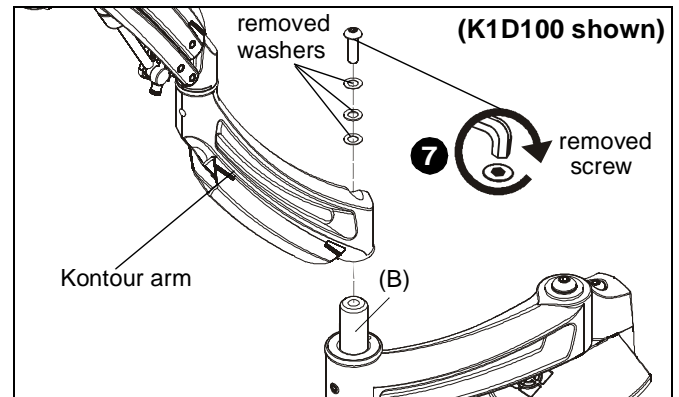

Figure 3
7. Use hardware removed in Step 2 to attach removed arm onto extension arm pin (B). (See Figure 3)